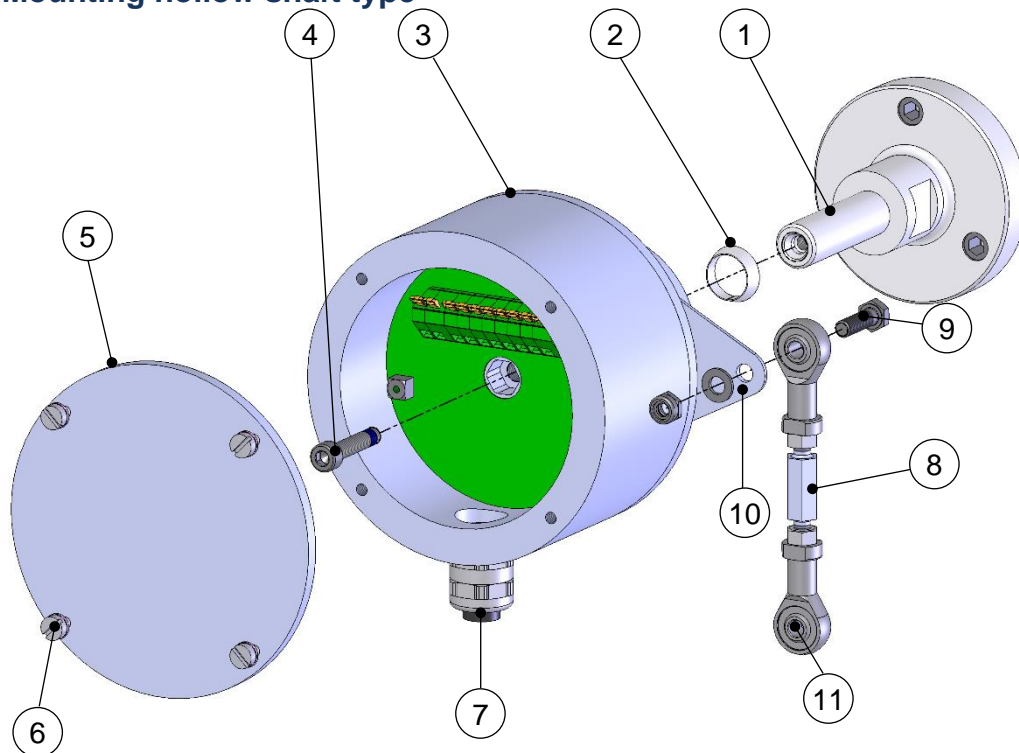

Fig. 1
5. Secure the hollow shaft device with the aid of the hexagon socket head cap screw (4). (Fig.1) maximum tightening 6 Nm.
1. Open the terminal box cover (5, Fig.1).
2. Remove the cap of the cable gland (7, Fig.1).